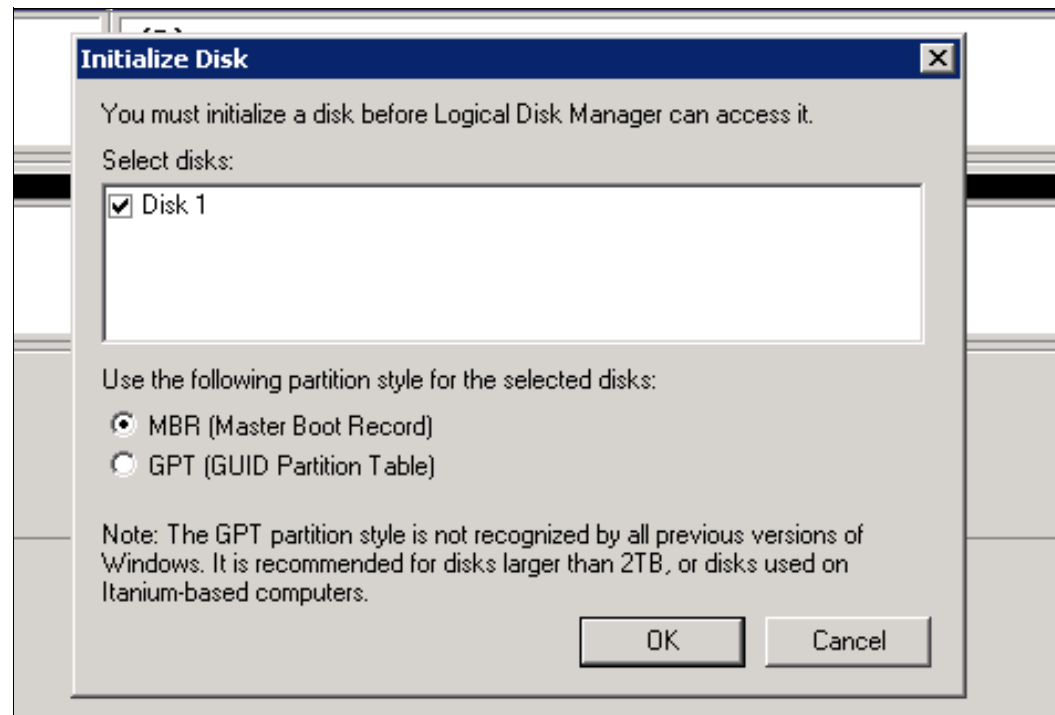

Figure 5-63 Initialize disk option
8. Select an initialization option and click **OK**. In our example, we selected MBR, as shown in Figure 5-63.